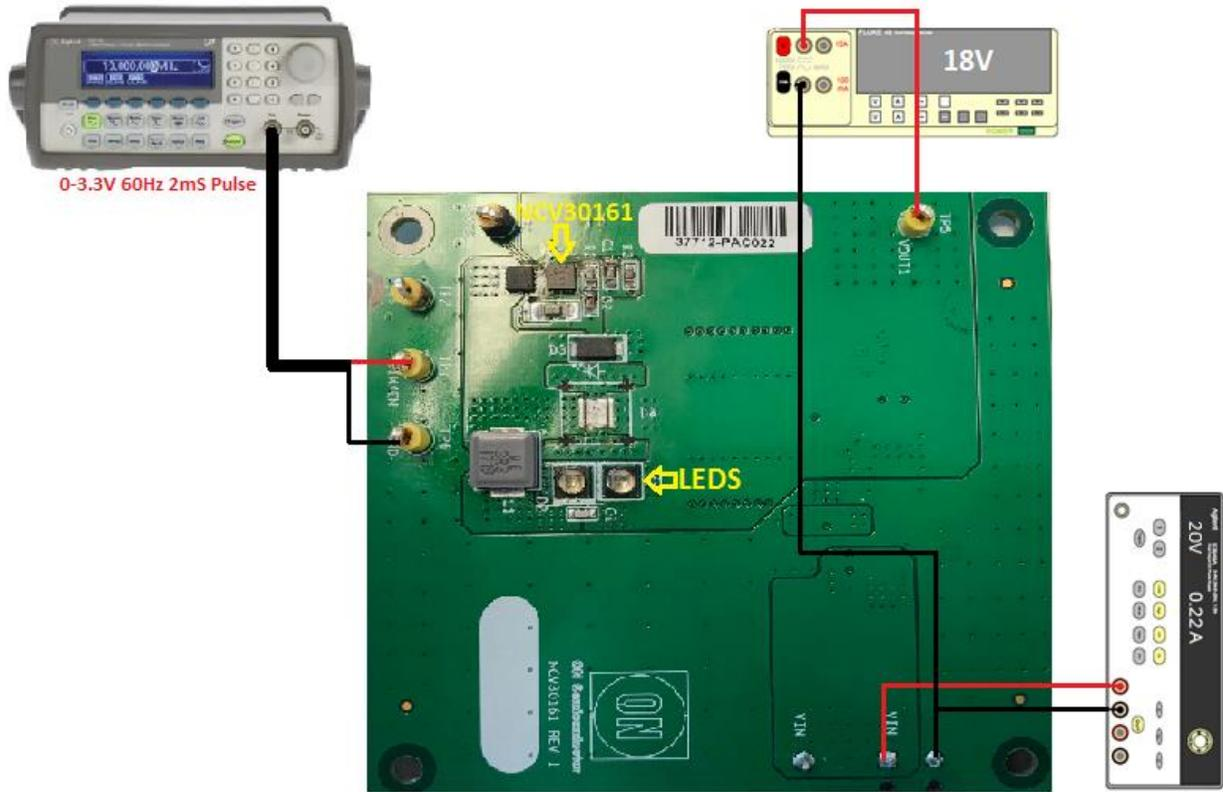

Figure 1: Test Setup
1. Connect the test setup shown in figure 1
4. Check the LDO's (NCV47821) output voltage (V_{out}) as shown in Figure 1